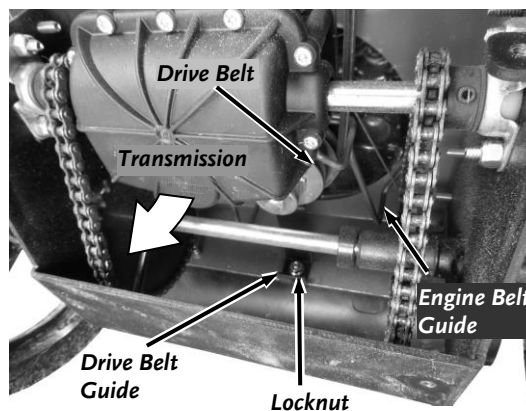

Figure 40
8. Loosen the rear Drive Belt Guide Locknut using a 7/16" Socket w/Ratchet and rotate the Guide out of the way (Figure 40).
16. Rotate the rear Drive Belt Guide into position, centered behind the Engine Pulley and tighten the Locknut with a 7/16" Socket w/Ratchet (**Figure 40**).